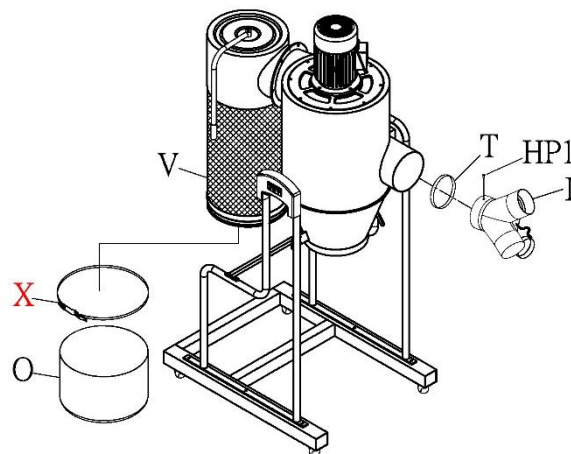

Figure 10
11. Apply foam tape (T) around inlet port near edge. See Figure 10. The foam tape should completely encircle the port.
12. Install inlet adaptor (I) on main housing and secure with pan head screw (HP1).
13. Apply foam tape (V) just above lower lip of canister filter. The foam tape should completely encircle the canister filter.
14. Install collection bag (O) to bottom of canister filter and secure with steel bag clamp (X).